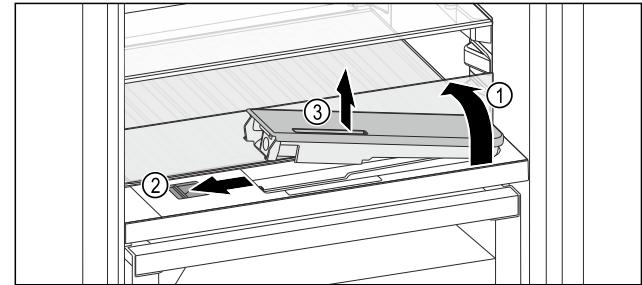

Fig. 124
- Lift the glass panel and fold towards the rear until it clicks into place *Fig. 124 (1)*.
- Slide the slider *Fig. 124 (2)* to the left.
- Remove the water tank *Fig. 124 (3)*.